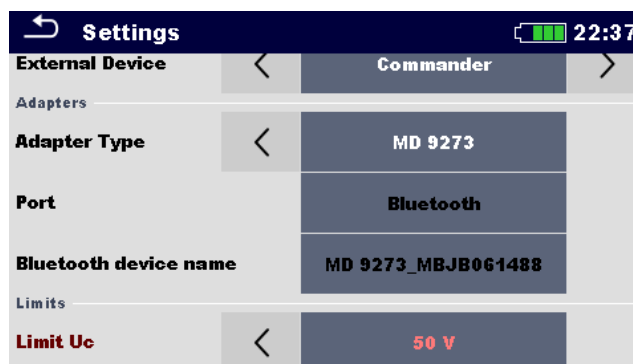

Figure A.1: Adapters setting menu
2. **Master Instrument:** Open General Settings / Settings menu and navigate to the Adapters section menu, see *Figure A.1: Adapters setting menu*.